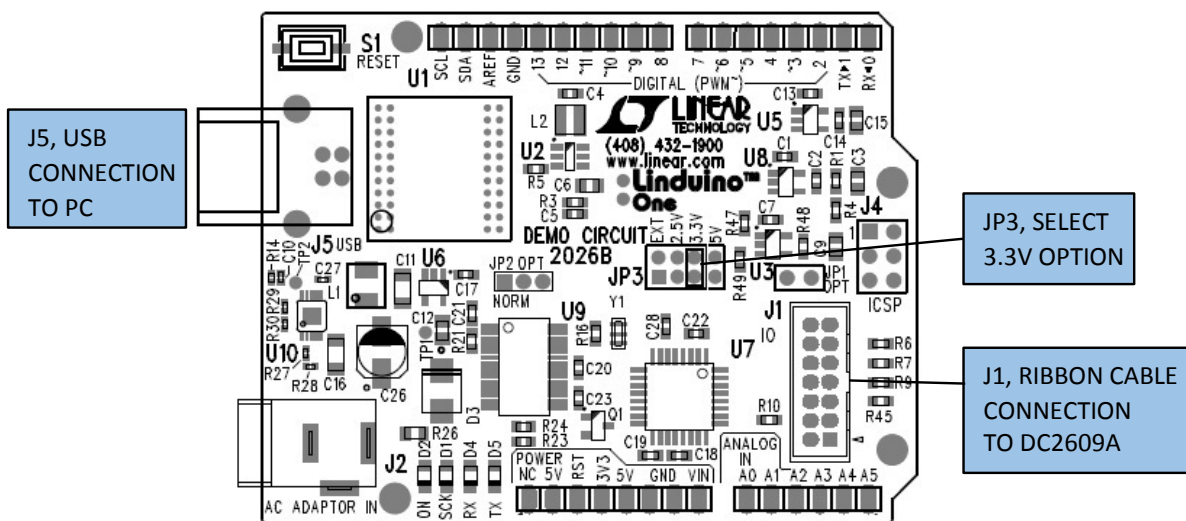

Figure 2. DC2026 Connector Location
Refer to Figure 2. Set the JP3 jumper to the 3.3V (preferred) or 5V position.
Step 1: Configure the DC2026 for 3.3V SPI as shown in Figure 2